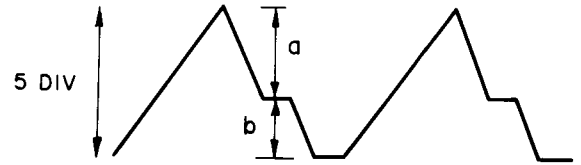

Fig. 14-7 Waveform
3. When a waveform like that shown in Fig. 14-7 is obtained, vary oscilloscope gain until a sawtooth wave with 5 div peak-to-peak is obtained. Then, referring to Fig. 14-7, adjust VR1 until a to b equals 2.8 to 2.2 (Make sure noise does not affect adjustment.)
4. When the 33 1/3 rpm adjustment is completed, adjust VR2 using the same procedure (item 2 and 3 above) for 45 rpm. Always adjust 33 1/3 first, and always adjust 33 1/3 if 45 rpm is to be adjusted even though it might be accurate.